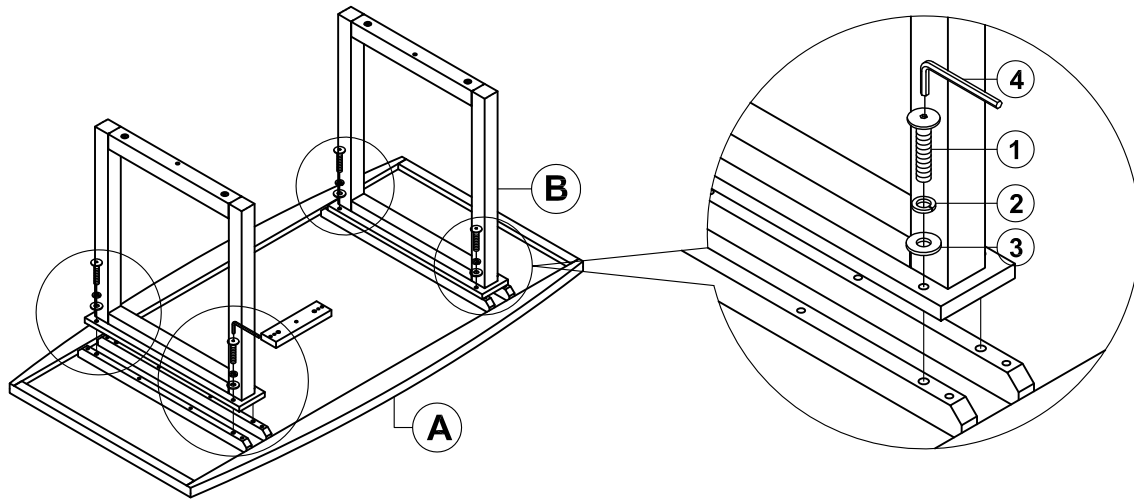

Fig.2
Turn Table Top (A) upside down on a soft protective surface and attached Mounting Plate (D) to the Table Top (A) using the provided hardware as shown on Fig.2 .